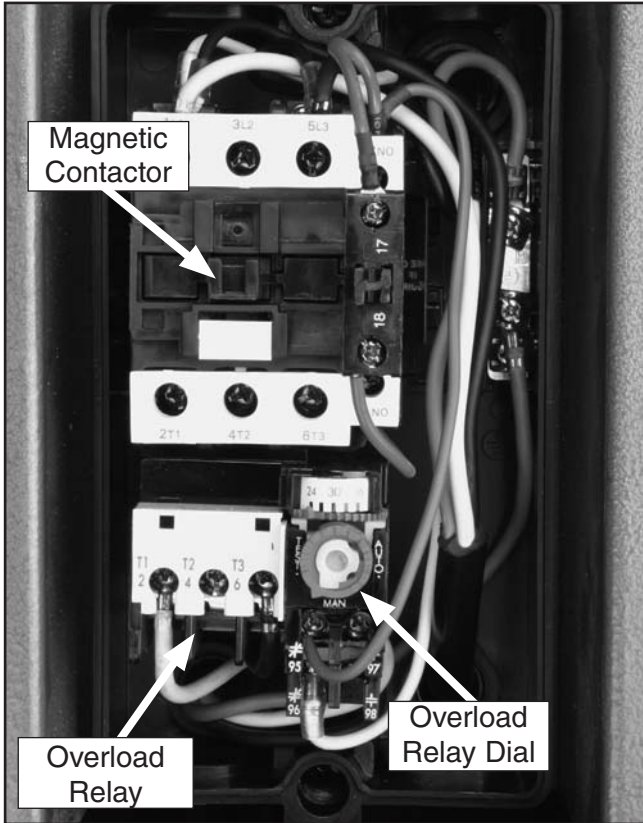

Figure 7. Magnetic switch.
4. Replace the 220V magnetic switch (**Figure 7**) with the 440V magnetic switch. Set the dial on the new overload relay to 11A.